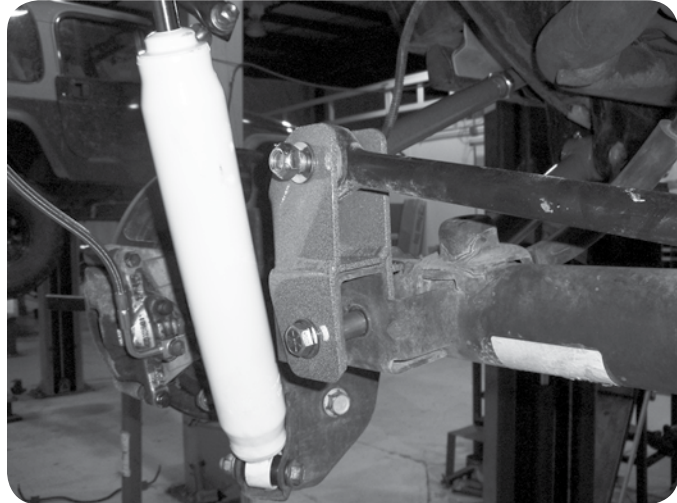

Figure 12A
11. Locate the new rear track bar bracket. Install the bracket over the factory track bar mount at the axle (**Figure 12A**). The support wing on the bracket will rest on the existing bump stop pad on the axle and align with the holes in the bracket. Align the original track bar mount hole with the hole in the bracket. Temporarily install a 9/16" x 3-1/2" bolt. Using the bracket as a guide, mark the top mounting hole to be drilled. Remove the bracket and drill a 7/16" hole at the mark.